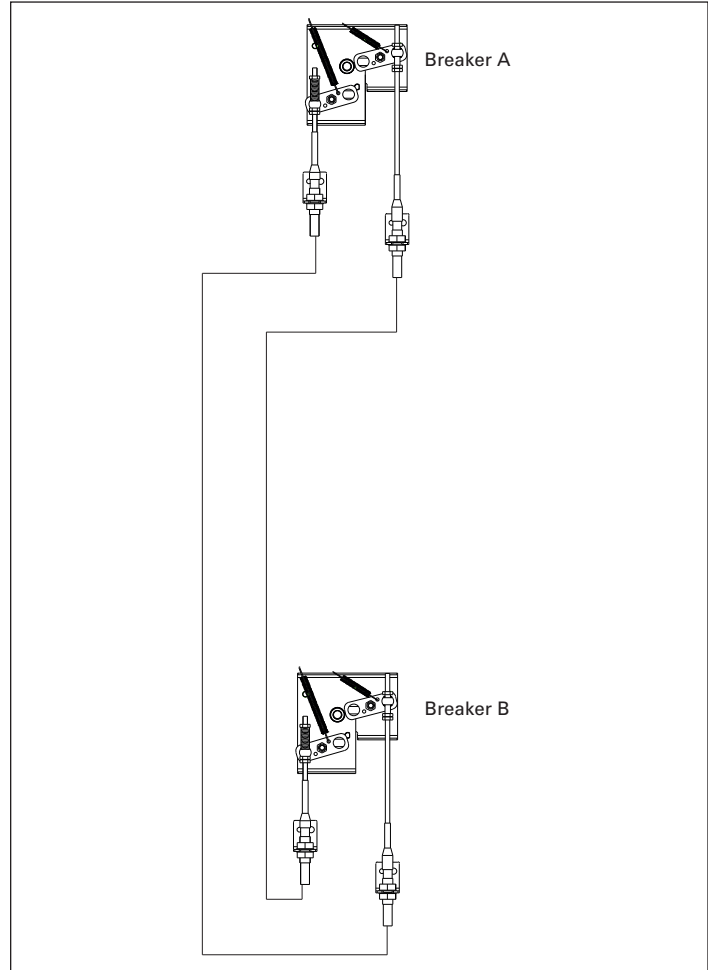

Figure 1. Cable routing for two-way interlock configuration
This information leaflet (IL) provides detailed installation instructions for installing and interconnecting one fixed Type NF frame breaker to another type of low voltage circuit breaker (LVCB) in any position (see A, B in **Table 1**) for a two-way interlock configuration as shown in **Figure 1**. When purchasing kits for a two-way interlock configuration setup, additional interlock kits (the types of interlock kits and the other breakers on which they can be installed that are compatible with this kit are listed in **Table 2**) are required for the breaker as well as the interconnecting cable kits (one is required).